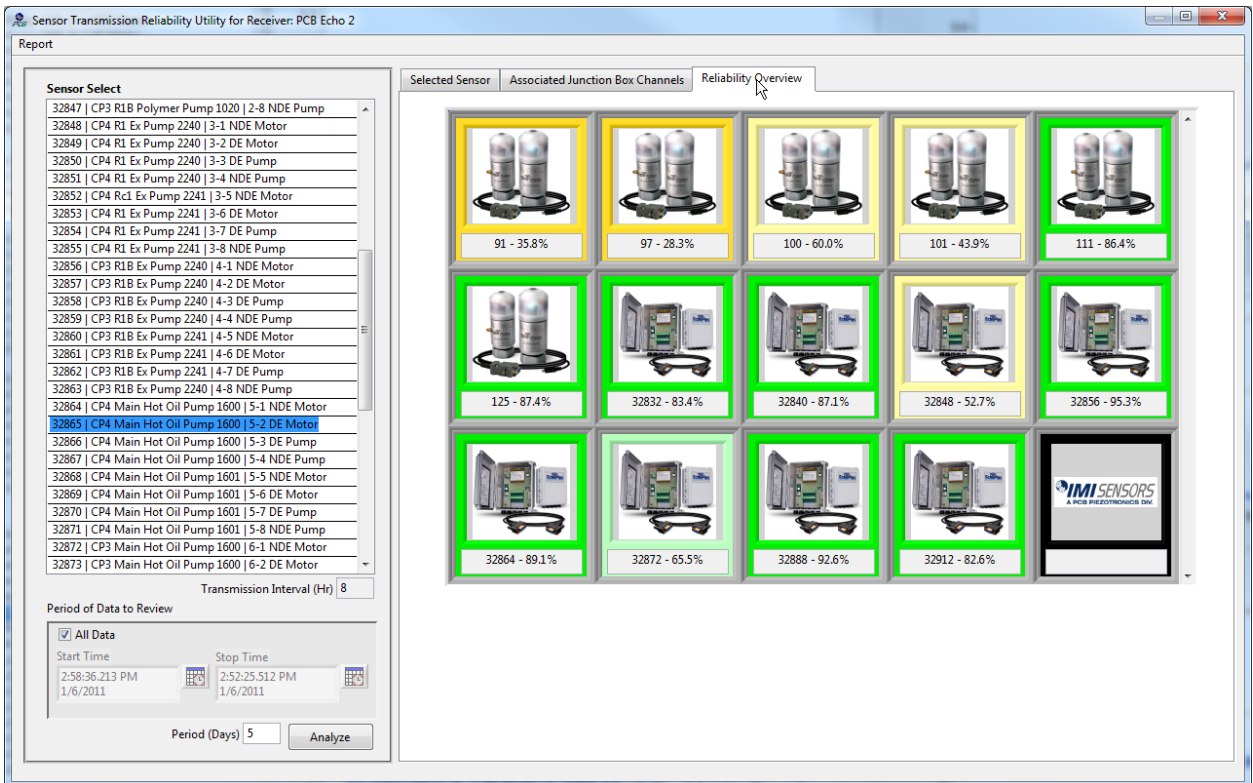

Figure 89 – Echo[®] Sensor Transmission Reliability Utility – Reliability Overview Tab
- **Reliability Overview tab** (Figure 89) – This tab shows the overall reliability of every device assigned to the selected receiver. Each entry is an icon of either a junction box or a standalone sensor. Below each icon is a transmission reliability statistic for the time period analyzed. The number associated with each statistic is the sensor ID for that sensor. For junction boxes the 1st channel of the box is used. The color of the icon represents the reception quality at a glance in 20% steps. Bright green=>80%; Light Green=60-80%; Light Yellow=40-60%; Dark Yellow=20-40%; Red=<20%